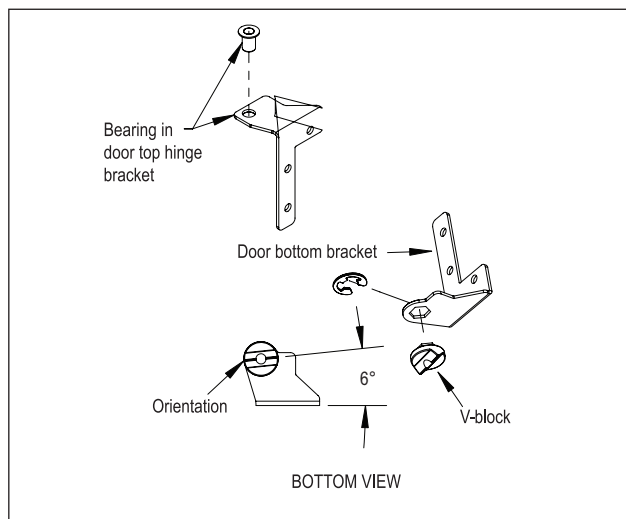

Figure 13. Bearing and V-Block
9). Insert the bearing into the door hinge bracket (Fig. 13).
10). Insert the V-block into the door bottom hinge bracket and attach with the e-clip (Fig. 13). Note the orientation of the V-block.